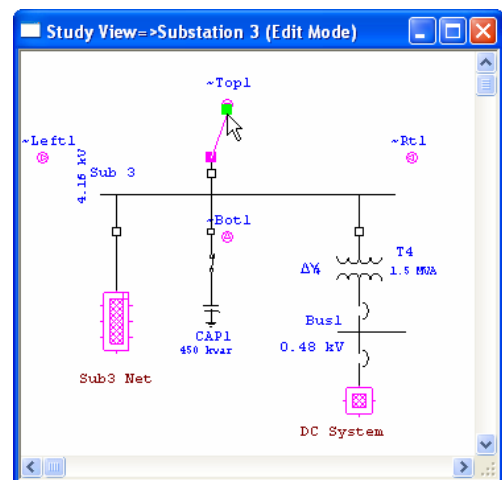

Fig. 10
10. Let’s use the “~Top1” internal pin to connect the incomer CB of “Sub 3” bus. Point the mouse on the upper side of the CB and when the “Red” square handle appears, drag the mouse toward the “~Top1” symbol and release the mouse when the “Green” square handle appears on the “~Top1” symbol. See Fig. 10